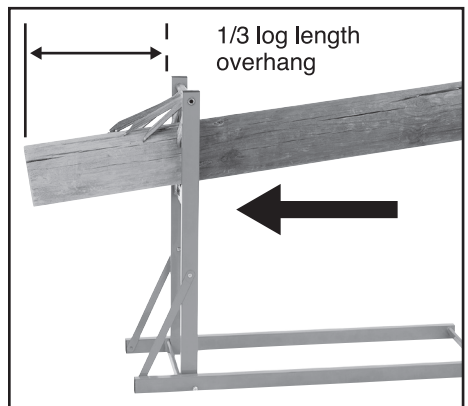

FIG.3
7.2 TIMBER POSITIONING – FIG. 3